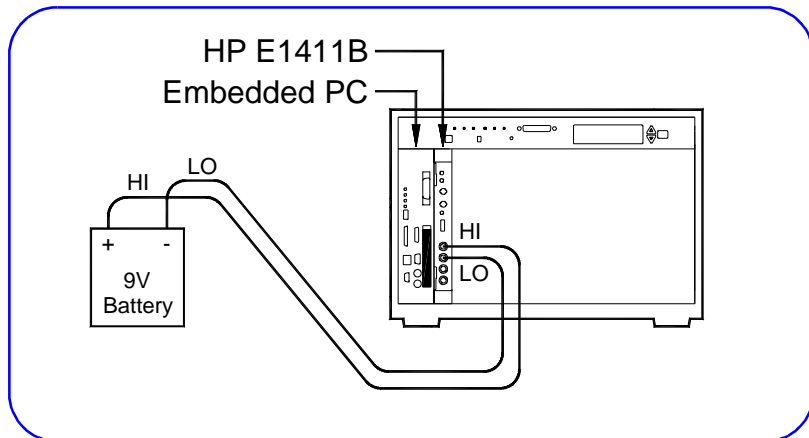

Figure 25. Example: HP E1411B Connections
- 1 Turn mainframe power OFF and connect the battery to the HI and LO terminals of the HP E1411B as shown in Figure 25. Then, turn mainframe power ON.